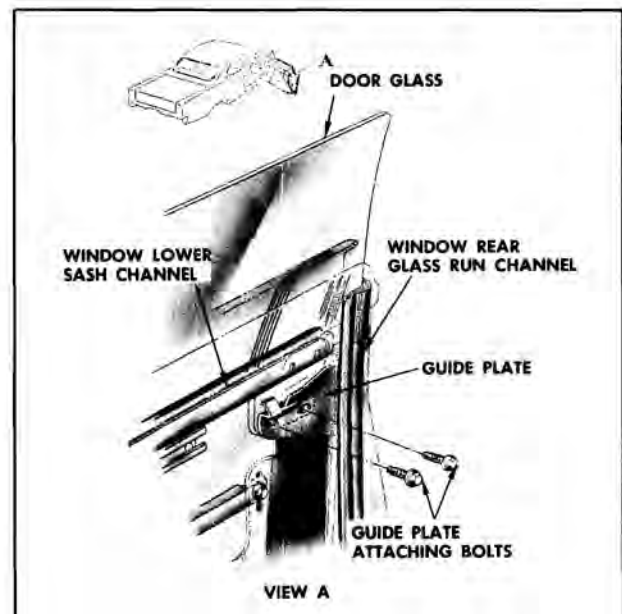

Fig. 16-334 Lower Sash Channel Guide Plate
3. Remove two bolts securing guide plate to glass lower sash channel and remove guide plate. (Fig. 16-334)